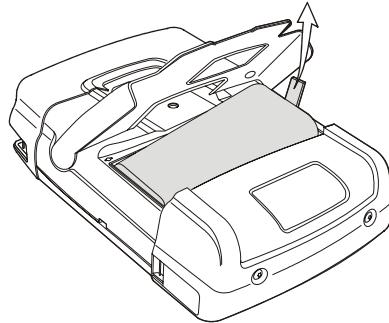

Figure 50. Removing the Battery
5. Lift one side of the battery and remove it (Figure 50)